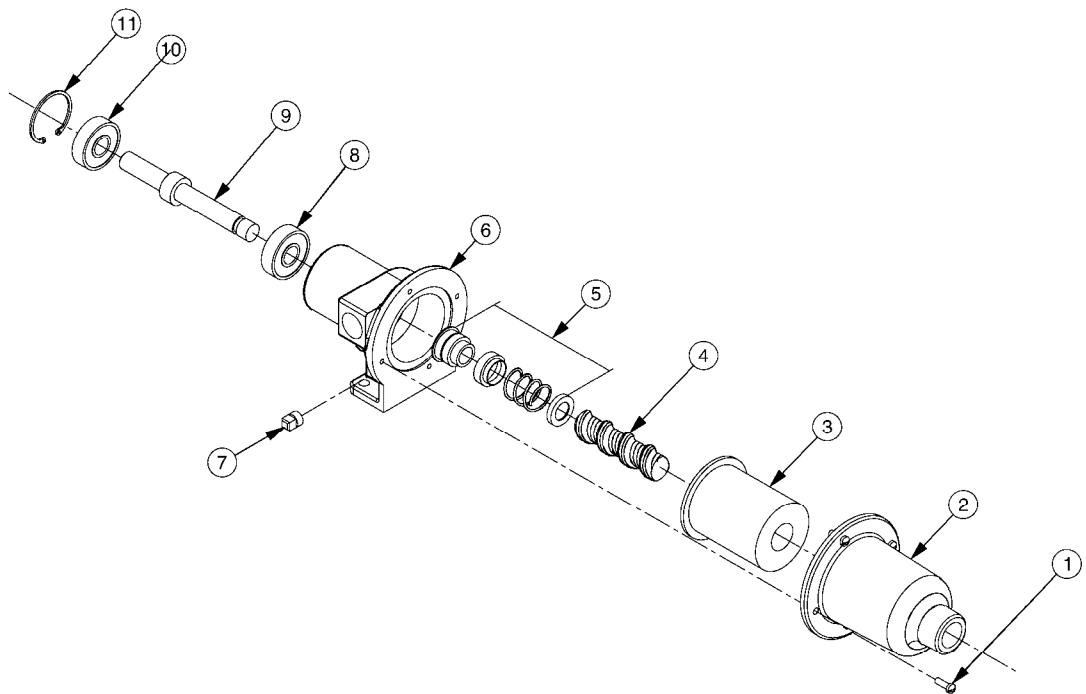

Figure 1-3. Exploded view of the Progressive Cavity Pump.
- 1. Refer to Figure 1-3 to locate and identify the various components of the Progressive Cavity Pump.